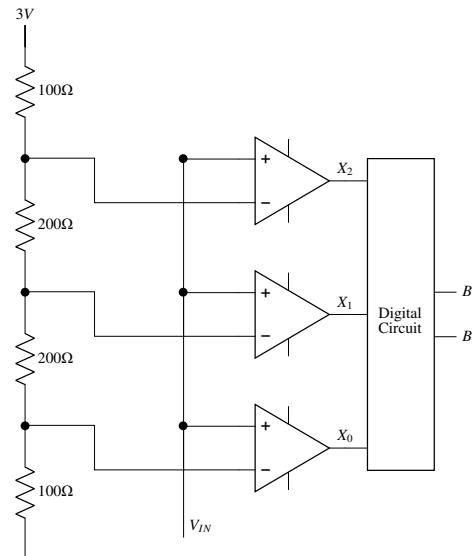

Fig. 3.30
49. A 2-bit flash Analog to Digital Converter (ADC) is given in Fig. 3.30. The input is $0 \leq V_{IN} \leq 3$ Volts. The expression of the LSB of the output B_0 as a boolean function of X_2 , X_1 , and X_0 is